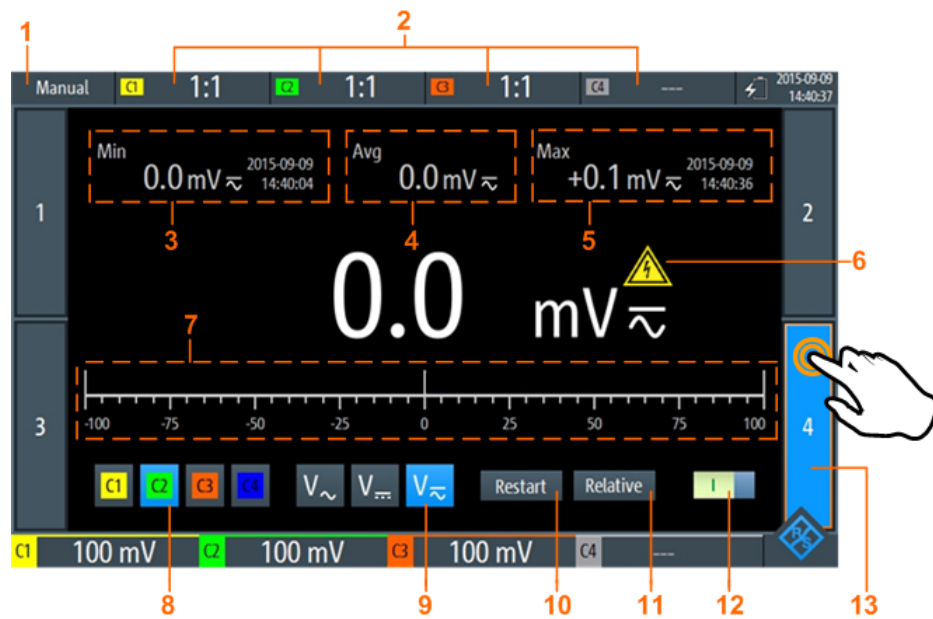

Figure 5-1: One-voltmeter-view
- Tap the highlighted number of the opened voltmeter as shown in Figure 5-1.
3. Select the channel to be measured (no. 8 in Figure 5-1).